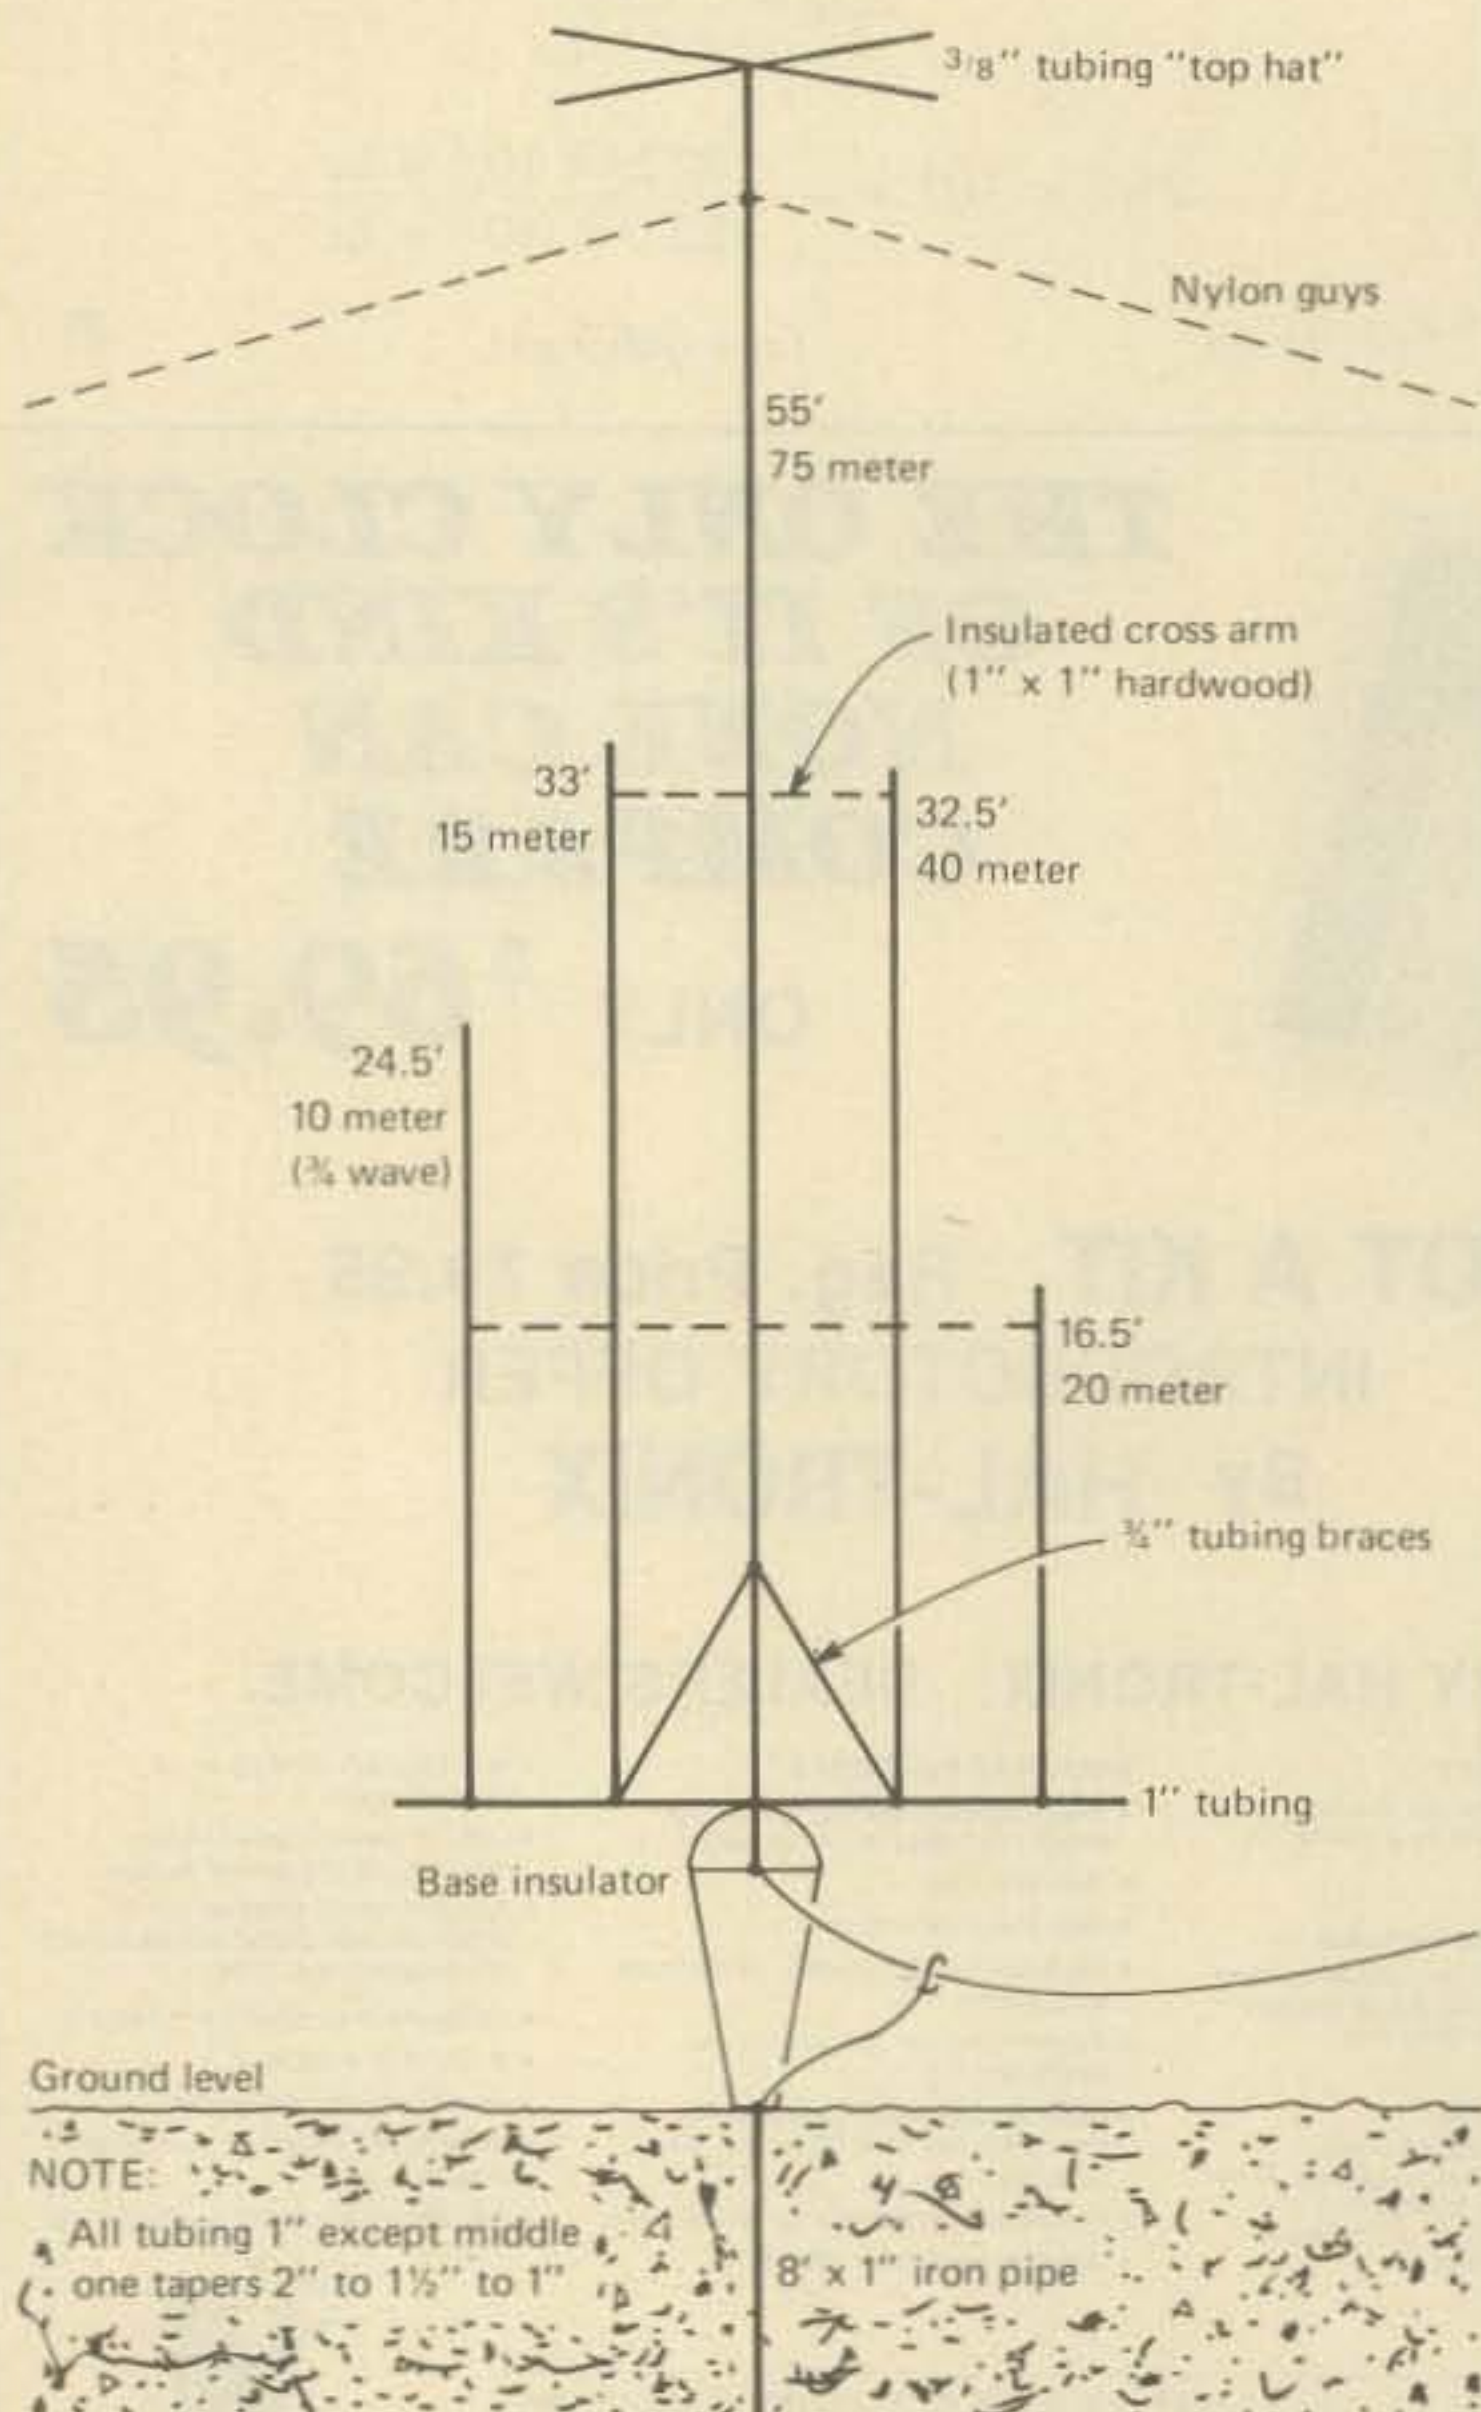

Fig. 1—W9CRC's "pipe organ" multiband vertical antenna.
*Fig. 1 - The Robot Research Model 70 Monitor offers an inexpensive approach to viewing SSTV pictures. These monitors are no longer manufactured but look for them at hamfests of your favorite dealer's used gear counter.*